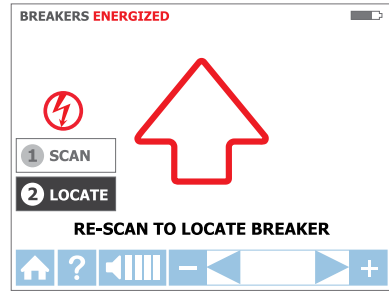

Figure 3.3d: LOCATE mode
1. Select LOCATE mode by using the directional arrows and pressing the yellow ENTER button (Figure 3.3d).